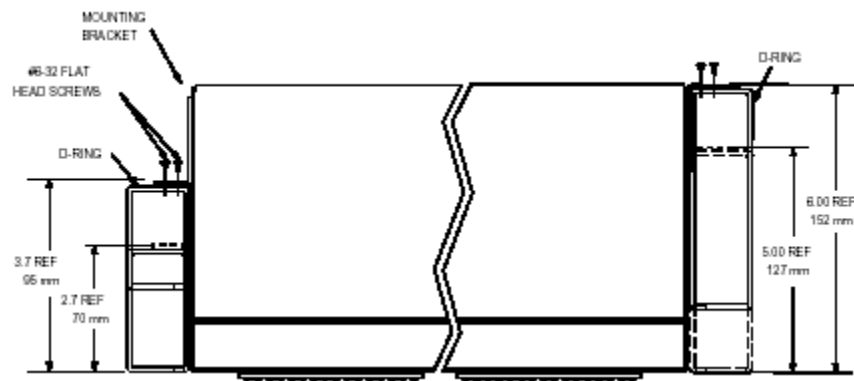

Figure 1. Top View—Attaching Mounting Brackets and D-Rings
2. Attach two angle mounting brackets to the panel using eight No. 6-32 screws provided (see Figure 1). The mounting hardware provides the following mounting positions: